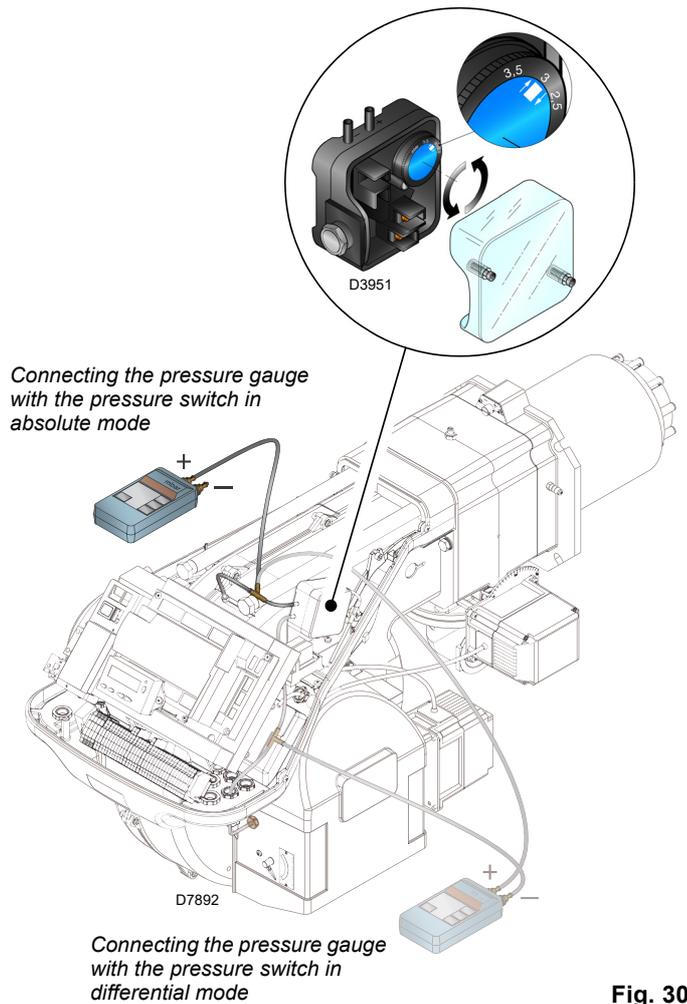

Fig. 30
- Adjust the air pressure switch (Fig. 30 at page 31) to the start of the scale.
Adjust the air pressure switch (Fig. 30) after having performed all other burner adjustments with the air pressure switch set to the start of the scale.
The connection of the pressure gauge is shown in Fig. 30. The standard configuration is that with the air pressure switch connected in absolute mode. Note the presence of a "T" connection, not supplied.
In this case also, the pressure gauge must be connected in differential mode, as shown in Fig. 30.